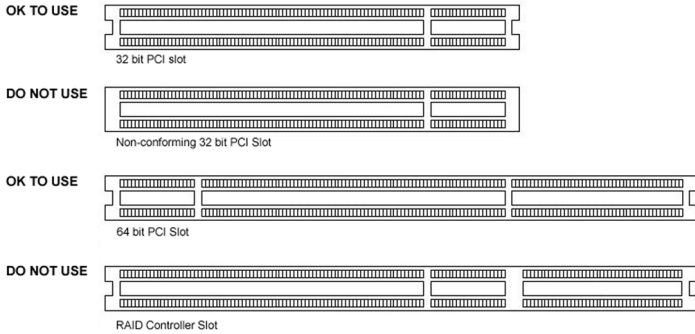

Figure 7: PCI and RAID Controller Slots
The BarcoMed 2MP2CP display controller may be installed in either a 32-bit or 64-bit slot with no loss of functionality. Figure 7 on page 33 illustrates the types of slots so that you can correctly identify which one to use for the BarcoMed 2MP2CP display controller and which ones not to use.
4. Install the BarcoMed 2MP2CP display controller into a free PCI slot, either 32-bit or 64-bit (see figure 7 above, for examples of slots). Be sure that the display controller is seated firmly in the slot.